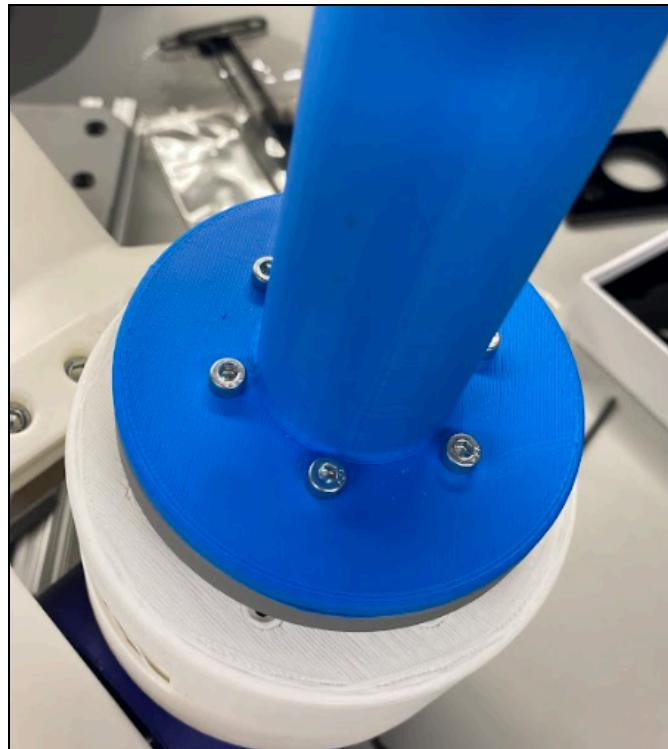

Figure 57: J5 Cylinder to J5 Motor
- Using 6 M4x10 mm long screws, fasten the Forearm to the J4 Mushroom Cap. See Figure 57 Below.